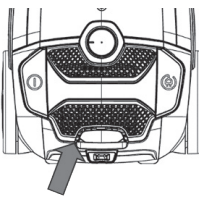

Fig. 16
3. Clean the outlet filter: open the outlet cover and take out the HEPA frame and filter. Wash it and install it after the filter has fully dried. (Fig 16/17)